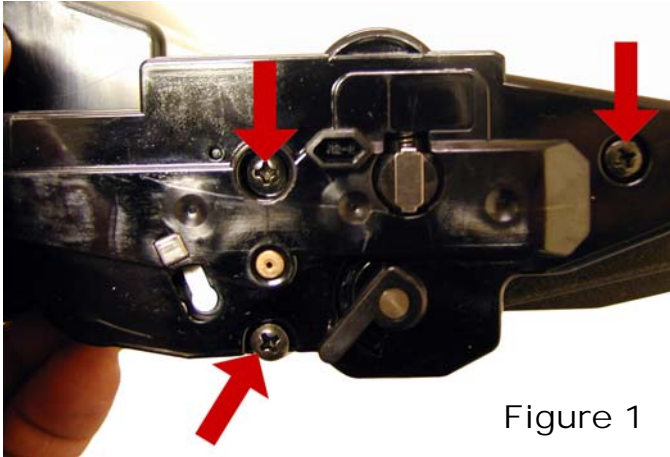

Figure 1
1) Place the cartridge with the handle/supply chamber towards you. Remove the 3 screws on the right end cap. See **Figure 1**